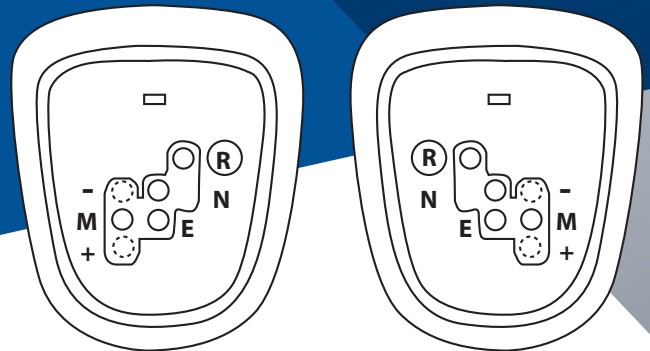

Fig. 1
Multi-Mode Transmission, or MMT for short, is a type of sequential manual gearbox offered by Toyota. Instead of a conventional automatic transmission which uses hydraulics and a torque converter, the MMT has a conventional friction clutch and mechanical gear selector mechanism which is controlled electronically. The most obvious way to identify whether a car is fitted with MMT, is the gear selector will have no transmission locking Park (P) position, as in Fig. 1.